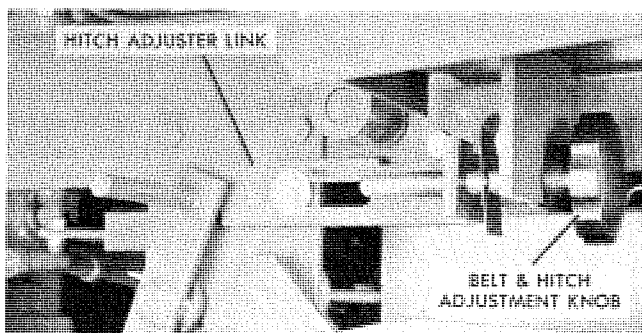

Fig. 2 - Hitch Adjuster Link
If the Hitch Adjuster Link and related parts are not attached to the tractor they will need to be assembled and installed on the tractor. Fig. 2 shows the assembly as located on the tractor under the left foot rest. Refer to Fig. 2 and the parts drawing.
7. Turn the Belt Adjustment Knob all the way clockwise which will move the mower forward for belt installation. See Fig. 2.
2. Turn belt adjusting knob fully clockwise to loosen drive belt. See Fig. 2.
1. Turn belt adjustment knob all the way clockwise which will move the mower forward. See Fig. 2.